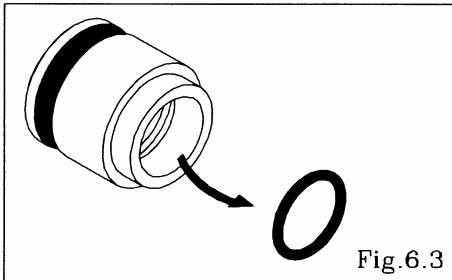

Fig. 6.3
- Remove the packing from the throat bearing. [Fig. 6.3]